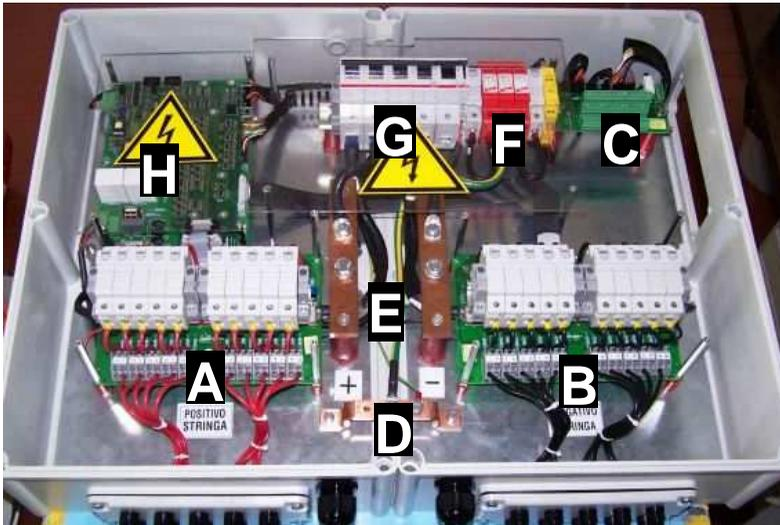

Figure 6-1: Inside of the PVI-STRINGCOMB-S
6.3.1 Input connections (Ref.§6.1 items A and B, Figure 6-1)
6.3.2 Signal inputs and outputs (Ref.§6.1 item C, Figure 6-1)
Presence of the ground cable connected to the relevant bar (Figure 6-1 item D) is necessary to ensure correct operation of this component.
6.3.5 DC isolating switch (Ref. §6.1 item G, Figure 6-1)